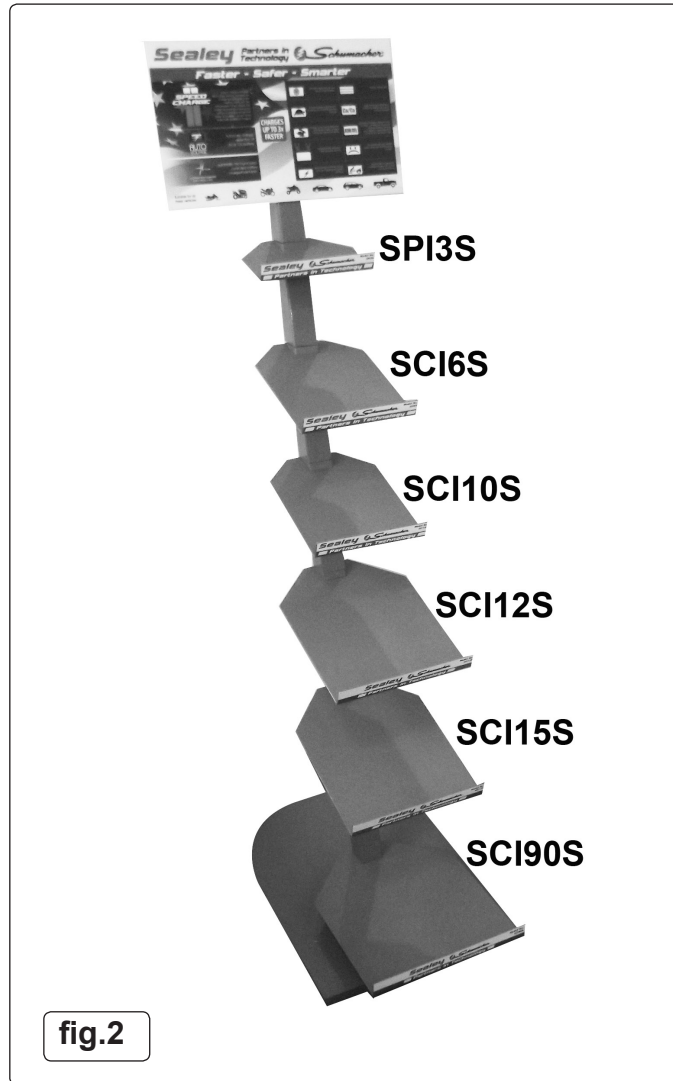

fig.2
- 2.1.8. Apply the labels in the order shown in fig.2 and affix the showcard to the cap.